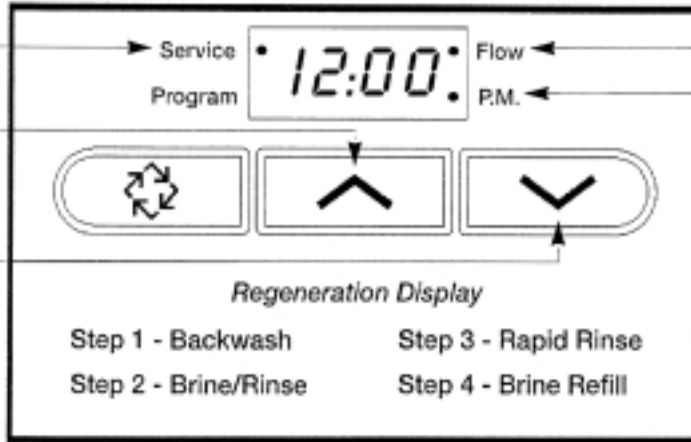

Figure 4
5. Plug the 24-volt transformer into a 120 VAC 60 Hz outlet. This valve has four positions: 1) Backwash 2) Brine/Rinse (not used) 3) Rapid Rinse and 4) Brine Refill (not used). When the valve is in the Service position, the *extra cycle* button (far left button as shown on Figure 4) must be pressed and held for 5 seconds before it activates. Press and hold the *extra cycle* button for 5 seconds to advance the valve to the "1" Backwash position. Slowly turn on the water supply and allow the unit to backwash until the air purges out of the tank and clears the system.